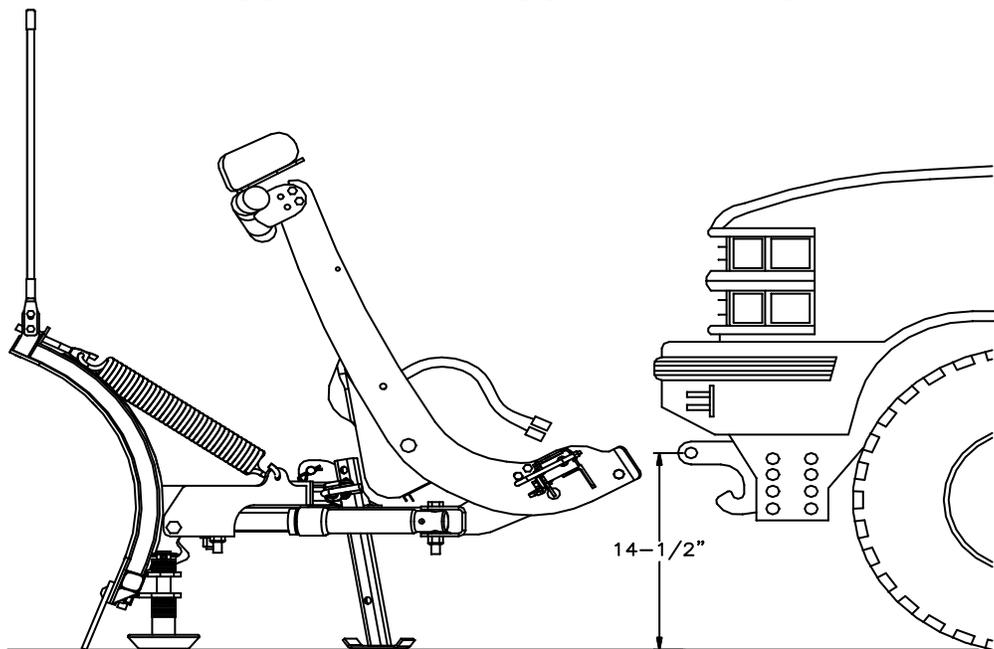

Figure 3
8. Install one 1/2"-13 x 4" Hex Head Bolt (D) and one 1/2"-13 Lock Nut in the upper holes in Driver Side Push Beam Support Plate (62B). Repeat on the passenger side.
9. Assemble Angle Bracket (75) to the back of Push Beam Assembly (62) using four 1/2"-13 X1-1/2" Hex Head Bolts (A) and four 1/2"-13 Lock Nuts (B). Leave hardware finger tight.
10. Insert Nut Plate (101) and Nut Plate (102) into the cross member through the large holes in the bottom of the cross member. Align the nut bars with the center hole and the two outer holes in the cross member.
11. Assemble the rear portion of Angle Bracket (75) to the truck's cross member using three 1/2" Split Lock Washers (C), two 1/2"-13 X 2" Hex Head Bolts (E) and one 1/2"-13 x 1-1/2" Hex Head Bolt (A). Begin by aligning one 1/2"-13 x 2" Hex Head Bolt (E) into the center hole in the bottom of Angle Bracket (75) and threading it into Nut Plate (101). Complete by inserting the remaining hardware into the two outer holes.
12. With all undercarriage parts in place, securely fasten all mounting hardware. It is important that all fasteners be properly torqued (see Fig. 3) to assure a safe operating plow. Re-tighten all fasteners after 2 hours of plowing.